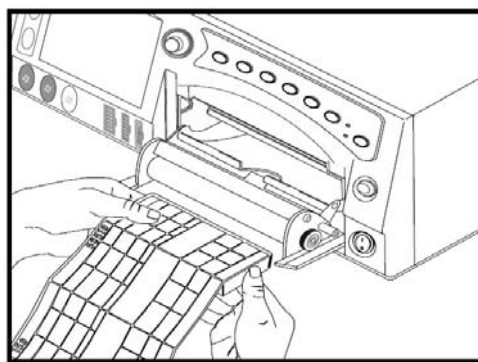

Figure 2-4
5. Place the pack of paper in the drawer so that the pack is in a flat position in the recorder (See Figure 2-4).